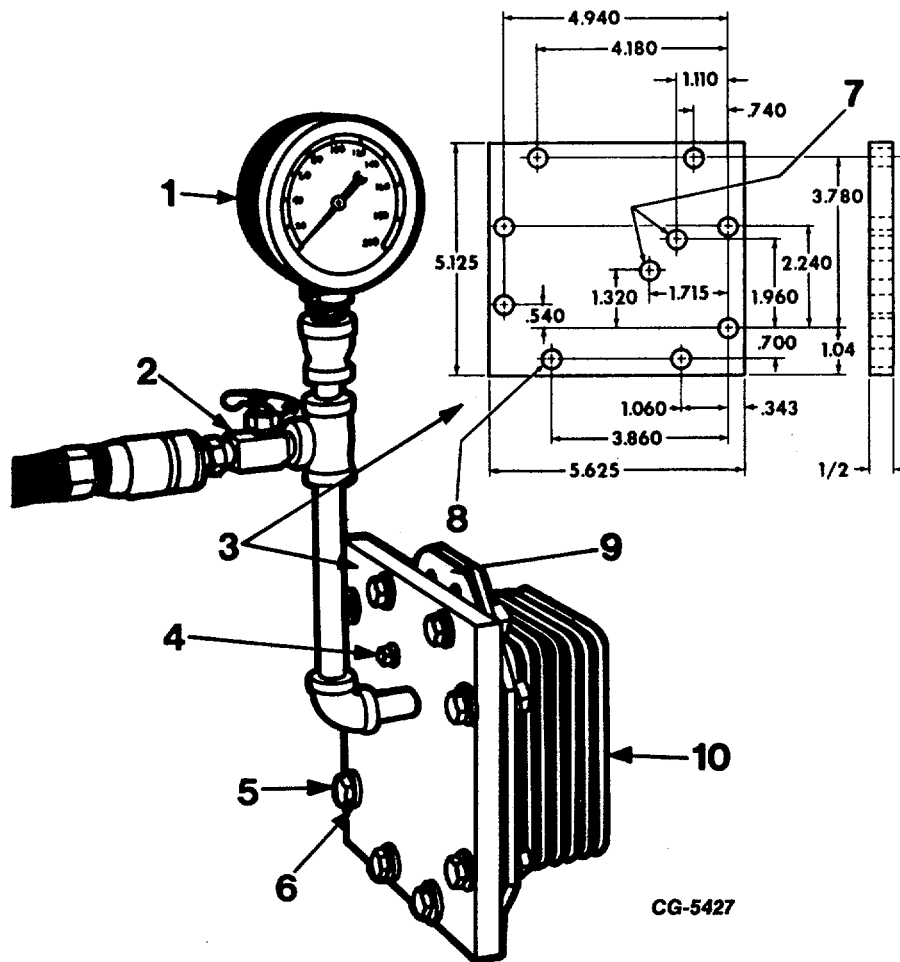

Fig. 134 Pressure Testing Engine Oil Cooler Core Assembly
1. Attach test plate and gasket to core assembly mounting face flange (Figure 134). The test plate must be made locally according to the dimensions in the insert in Figure 134. Obtain engine oil cooler housing gasket from service parts stock.
2. Install pressure gauge, air control valve and quick connect air coupler to test plate (Figure 134). Apply 80 to 100 lbs. of air pressure to the core assembly.